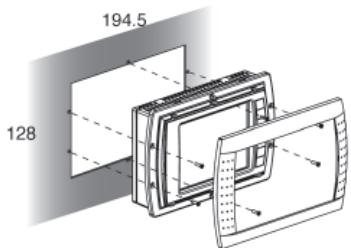

Fig. 2
These terminals have been designed for panel installation; the drilling template must measure 194.5x128 mm + 6 circular holes, diameter 4 mm, as shown in Fig. 2 and 4.
- Insert the terminal, without the front frame, into the opening in the panel, and using the 6 countersunk screws supplied in the packaging, secure the device to the panel as shown in Fig. 2, then check the correct positioning of the front rubber gasket;